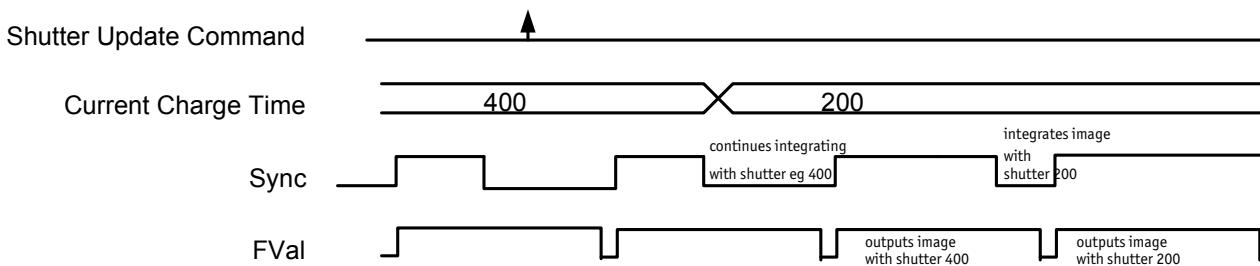

Figure 103: Former standard timing
- The delay from shutter update until the change takes place: up to 3 frames. Figure 103: Former standard timing on page 179 demonstrates this behavior. It shows that the camera receives a shutter update command while the sensor is currently integrating (Sync is low) with shutter setting 400. The camera continues to integrate and this image is output with the next FVal. The shutter change command becomes effective with the next falling edge of sync and finally the image taken with shutter 200 is output with a considerable delay.